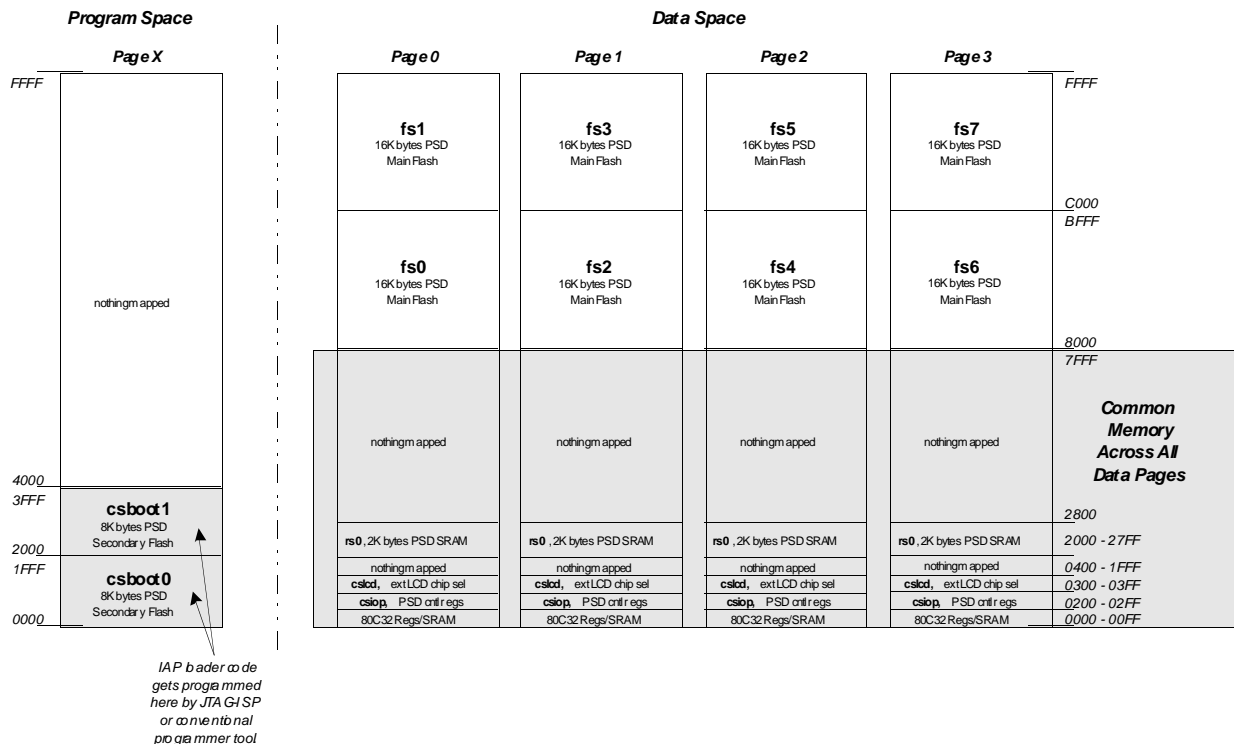

Figure 8 – Memory Map at Boot-Up or Reset and During IAP.
The memory map is a sequence of four steps shown in Figures 8 through 11. Figure 8 is the memory map at system power-on or system reset. The swap bit is defined as one of the eight internal PSD page register bits. The swap bit is an example of how page register bits can be implemented for uses other than memory paging. Here's the sequence after power-up or reset:
- Fig 8: 80C32 boots from secondary flash memory (csboot0/csboot1) at address 0000
- Fig 8: 80C32 performs a checksum of main flash memory while it resides in Data space
- Fig 8: 80C32 downloads to main flash from host computer if needed and validate contents
- Fig 8: 80C32 writes 06 hex to PSD VM register
Each time this 80C32 system gets reset or goes through a power-on cycle, the PSD presents the memory map of Figure 8 to the MCU, and the boot sequence is repeated.
To implement the advanced memory maps of Figures 8 - 11, invoke PSDsoft Express, open the project “page32” from the second design example. Now pull down the menu ‘Project’ from the top of the screen, and select ‘Save As’. For this third design example, save the second project under the new name “advanc32”. Now click on the ‘Pin Definition’ box in the design flow diagram. Click “OK” to get to the ‘Page Register Definition’ screen since no pin assignment needs to be changed for this third design.
Notice that these PSD physical memory segments can appear in more than one MCU address space depending on the memory page and the “swap” and “unlock” qualifiers. Now the memory maps of Figures 8 - 11 have been implemented. Click ‘Done’ and you should see the main flow diagram.